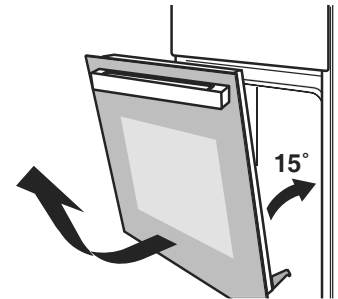

Figure 2
2. Close the door to an angle approximately 15° . Lift up and slowly pull the door out from the oven. (Figure 2)